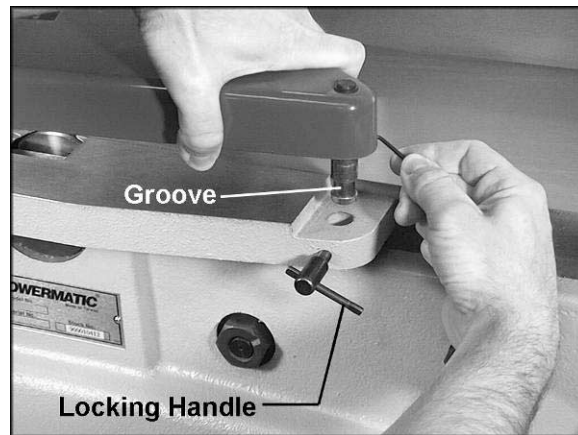

Figure 6
3. Lower the shaft of the guard into the hole on the jointer's rabbeting ledge. See Figure 6. The guard should be lowered into the hole far enough that the groove in the guard's shaft will mate with the shaft of the locking handle (Figure 6).
5. Completely tighten the locking handle (Figure 6), while continuing to hold the hex wrench and pin with your right hand.
6. When the guard is secured, remove the hex wrench from the pin. Slightly loosen the locking handle (Figure 6) until the pin snaps back against the rabbeting ledge.
7. Re-tighten the locking handle (Figure 6).